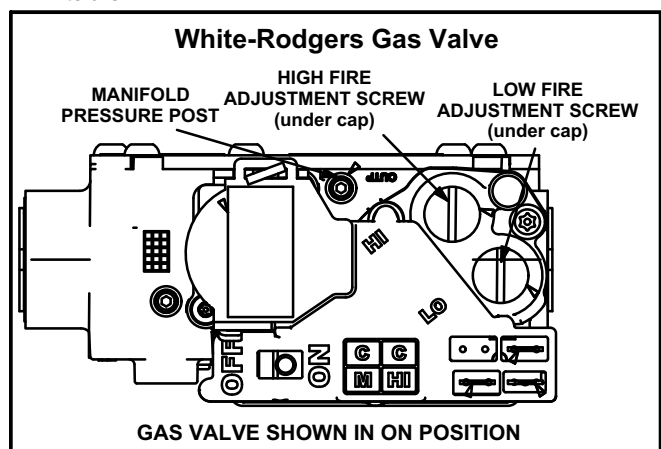
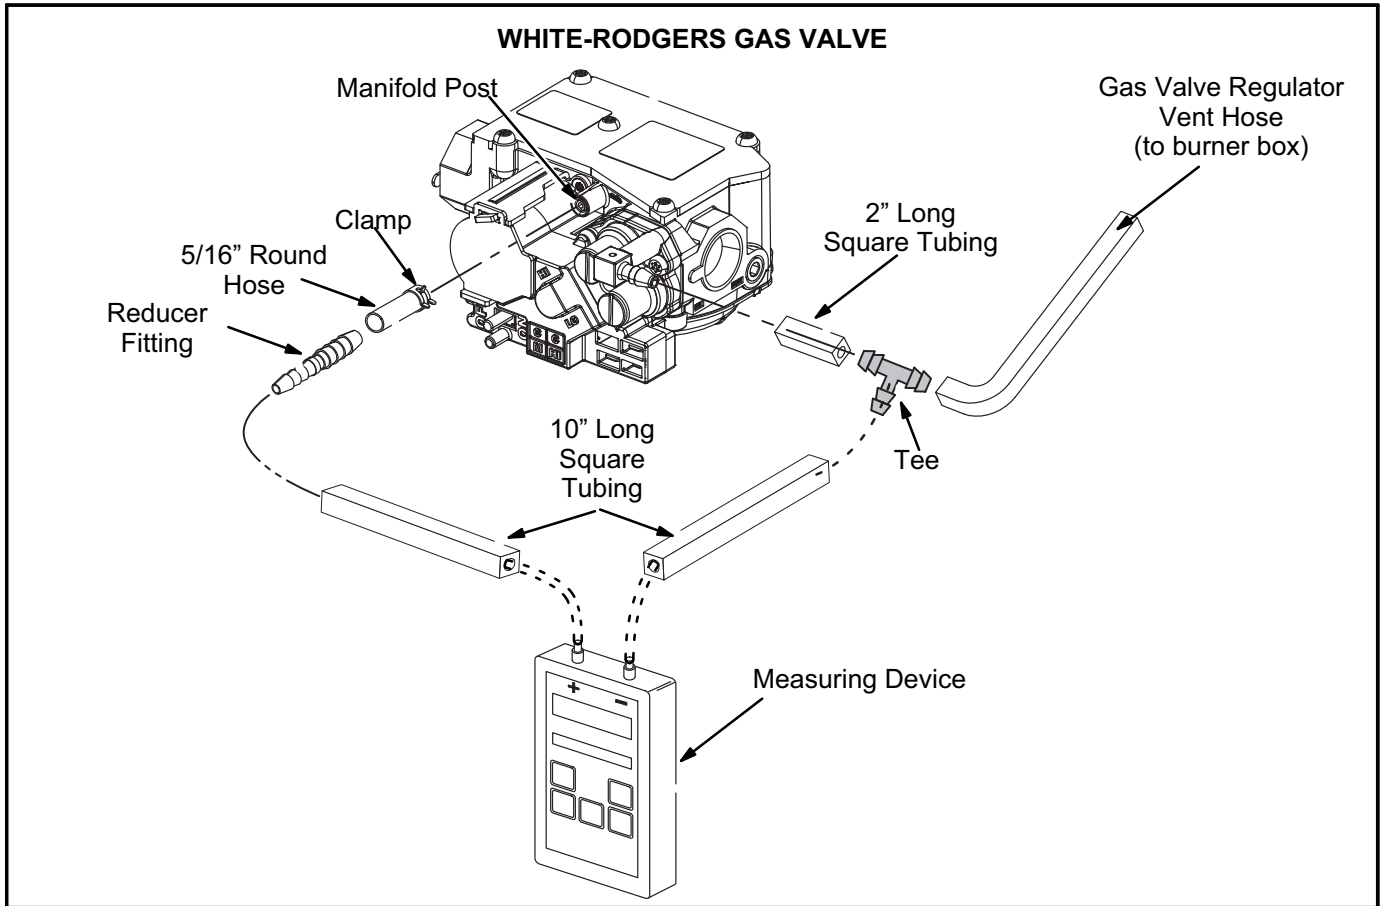

FIGURE 1
FIGURE 2
A manifold pressure post located on the gas valve provides access to the manifold pressure. See figure 1. Back out the 3/32 hex screw one turn. Refer to figure 2 and use the provided fittings and tubing to follow the steps below.
- 7 - If necessary, make adjustments. Figure 1 shows location of high fire and low fire adjustment screws.